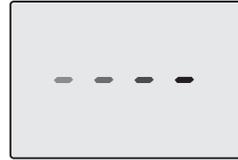
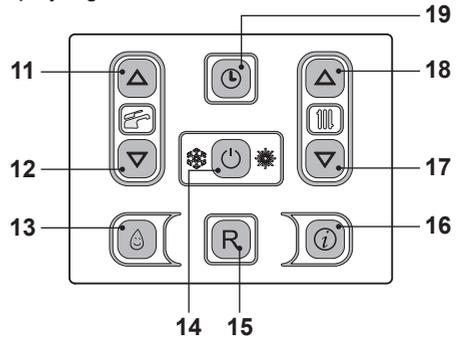

Fig. 7.4
Fig. 7.5
- Electrically power the boiler by switching on the double pole isolation switch. The LCD will display, the - - - - symbol (Fig. 7.4).
- Press the 14 key for 2 seconds until both  and  symbols appear on the display Fig. 7.5.
- Switch off the boiler by pressing the 14 (Fig. 7.5) key for 2 seconds until the --- symbol appears on the LCD display (Fig. 7.4).